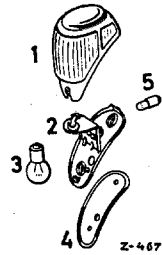

Fig. 82—3/1
1. Unscrew the oval-head countersunk screw at the bottom of the flash direction signal and take off the housing (Fig. 82—3/1).